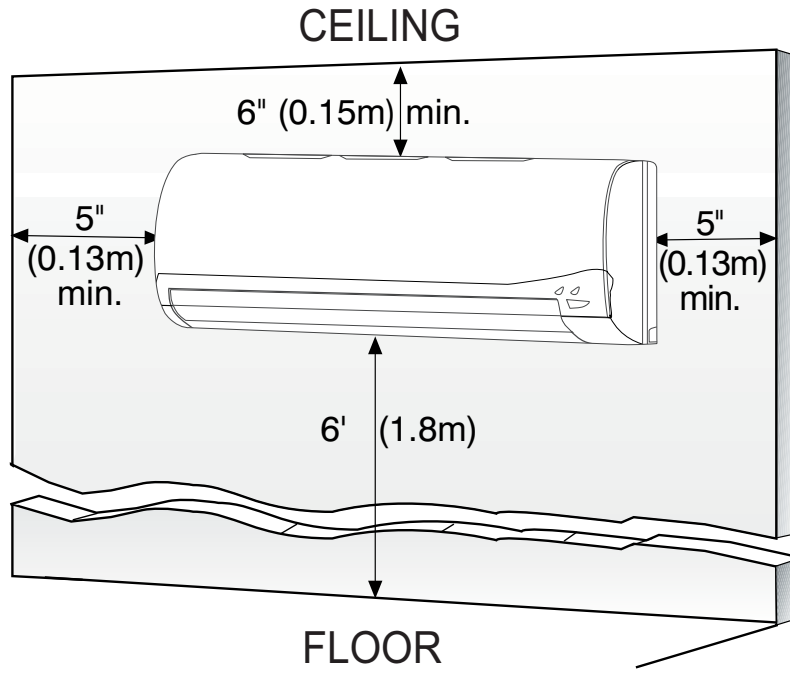

Fig. 6 – Clearances
Allow sufficient space for airflow and unit service. See Fig. 6 for the minimum required distances between the unit and walls or ceilings.
- A location which provides appropriate clearances (see Fig. 6.)
2. Using the Stencil, determine the wall hole position. The mounting plate should be located horizontally and level on the wall. All minimum spacings shown in Fig. 6 should be maintained.
Different model sizes have different mounting plates. Ensure there's enough room to mount the indoor unit (refer to Fig. 6). The following measurements can be located on these figures: